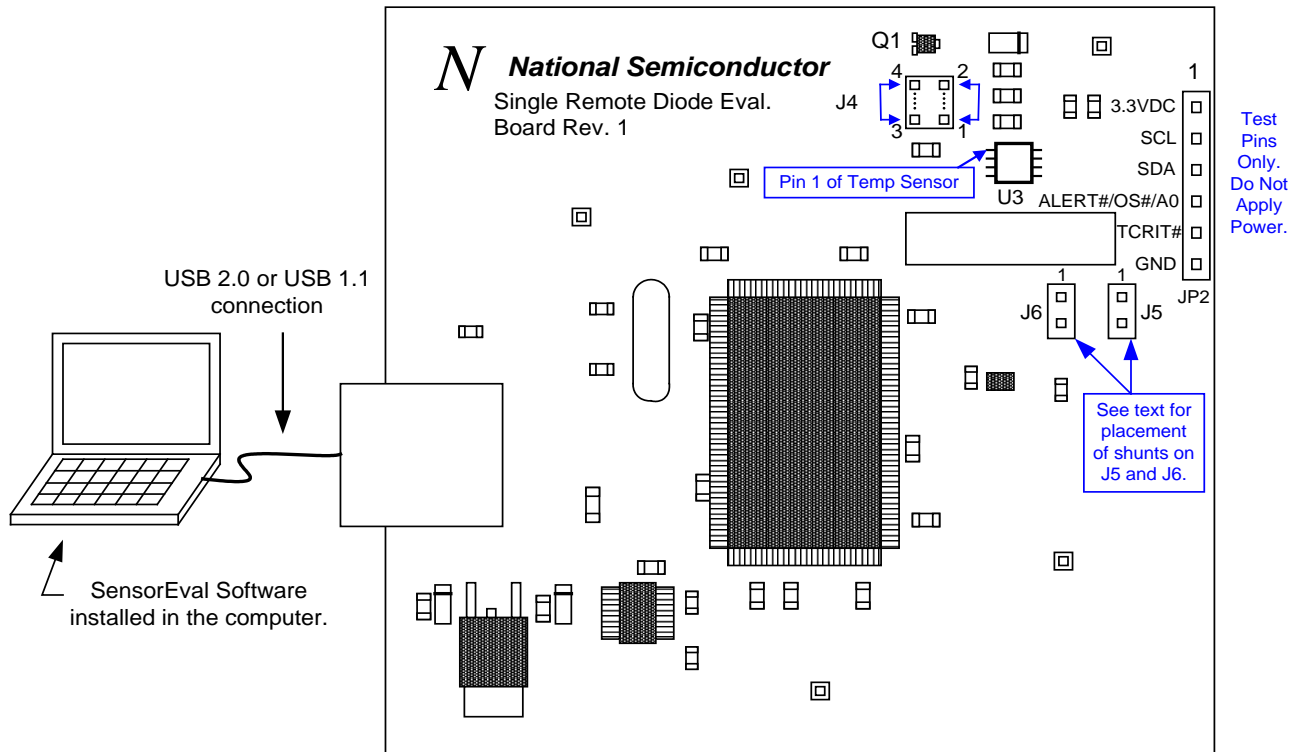

Figure 3: LM95235 Connections
6. Connect the USB cable between the PC or notebook computer and the LM95235EVAL board as shown if Figure 3 above.